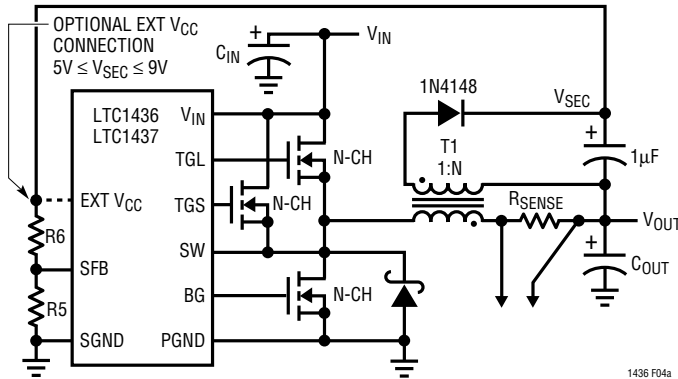

Figure 4a. Secondary Output Loop and EXT V_{CC} Connection
3. EXT V_{CC} connected to an output-derived boost network. For 3.3V and other low voltage regulators, efficiency gains can still be realized by connecting EXT V_{CC} to an output-derived voltage which has been boosted to greater than 4.7V. This can be done with either the inductive boost winding as shown in Figure 4a or the
The secondary output voltage is set by the turns ratio of the transformer in conjunction with a pair of external resistors returned to the SFB pin as shown in Figure 4a. The secondary regulated voltage V_{SEC} in Figure 4a is given by: